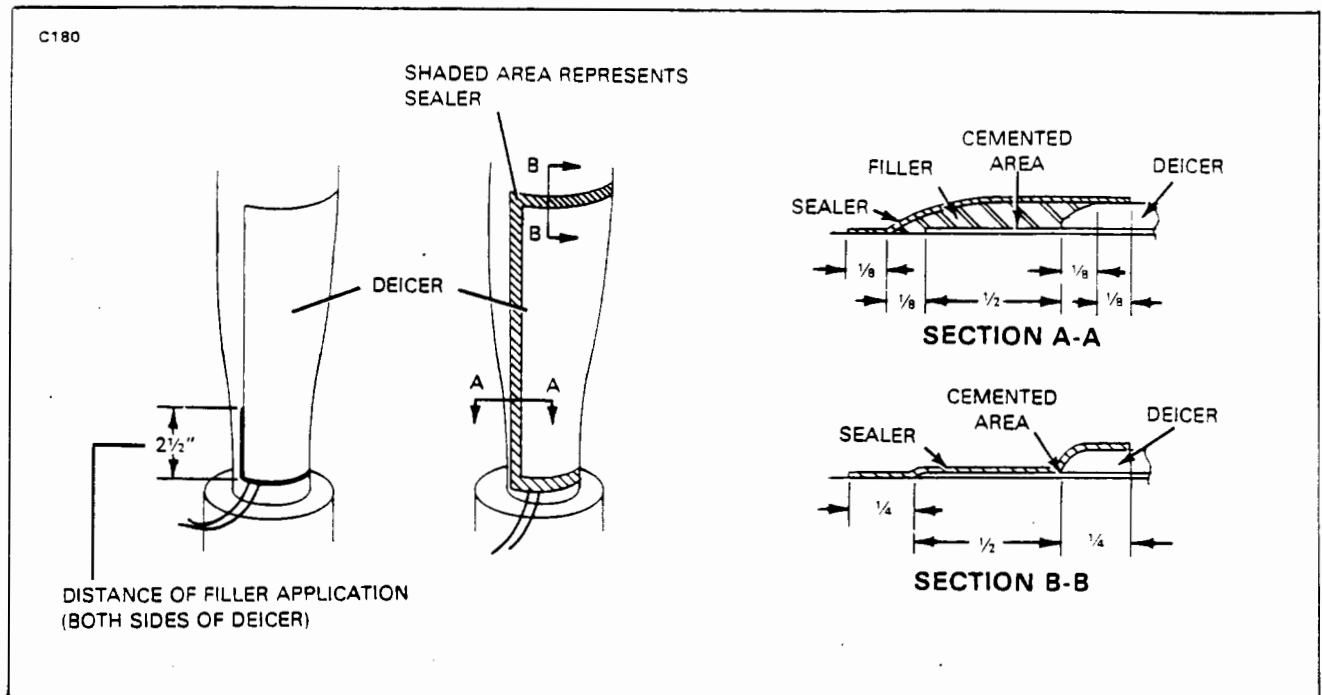

Figure 30-11. Typical Deicer Boot Sealer Application
1. When the cement coats are tacky (slightly sticky to the touch-like masking tape), dry on both the propeller surface and deicer surface, position deicer on blade leading edge. Start at hub end, using centerlines as a guide. (Refer to Figure 30-11.)
6. Apply one even coat of filler to area around the inboard end and sides of the deicer. (Refer to Figure 30-11.) Immediately remove the masking tape and allow the filler to dry for six hours.
7. Apply masking tape about .125 of an inch beyond filler or .250 of an inch beyond cemented area when no filler is used, to permit sealer to contact bare metal. Apply one even brush coat of sealer to the area around the deicer. (Refer to Figure 30-11.) Remove masking tape immediately and allow sealer to dry. Allow 12 hours cement curing time before starting engine, allow 24 hours cement curing time before operating the deicers.